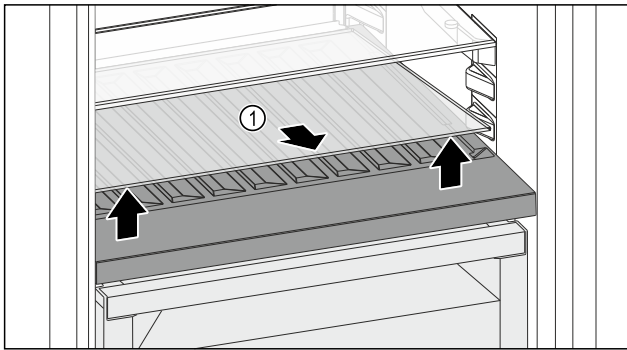

Fig. 205
- ▶ Lift the glass shelf Fig. 205 (1) at the front and remove.
- ▶ Store the glass shelf Fig. 205 (1) in a safe place outside the appliance.
- ▶ Insert the glass shelf (2) under the variable bottle rack.